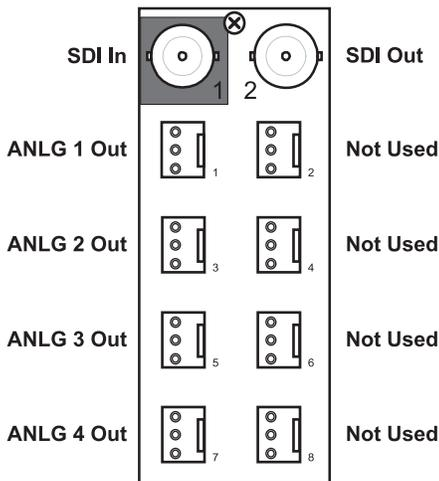
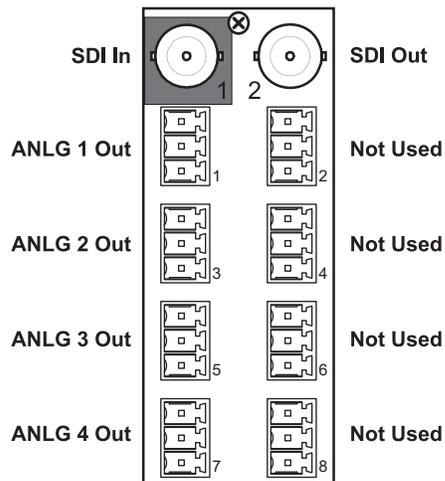

Figure 8 Cabling for the 8320AR-034
Figure 9 Cabling for the 8320AR-034A
- **DFR-8310 series frames** — The **8310AR-034** rear module is required. The DMX-8259-4C is not compatible with the DFR-8310-BNC frame. This rear module provides one SDI Input, one SDI output, and four analog outputs. (Figure 8)
- **DFR-8320, OG3-FR, and OGX-FR series frames** — The **8320AR-034** and **8320AR-034A** rear modules are supported. Each rear module provides one SDI Input, one SDI output, and four analog outputs. (Figure 8, Figure 9)